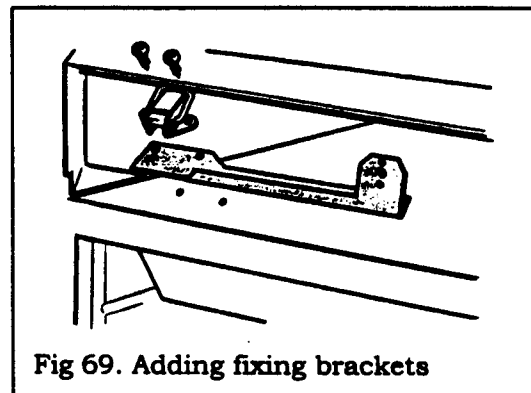

Fig 69. Adding fixing brackets
19.2.2 Place the LH and RH fixing brackets supplied onto the engine and replace the toggle clamps and screws. Ensure that the screws are tight. (Fig 69)